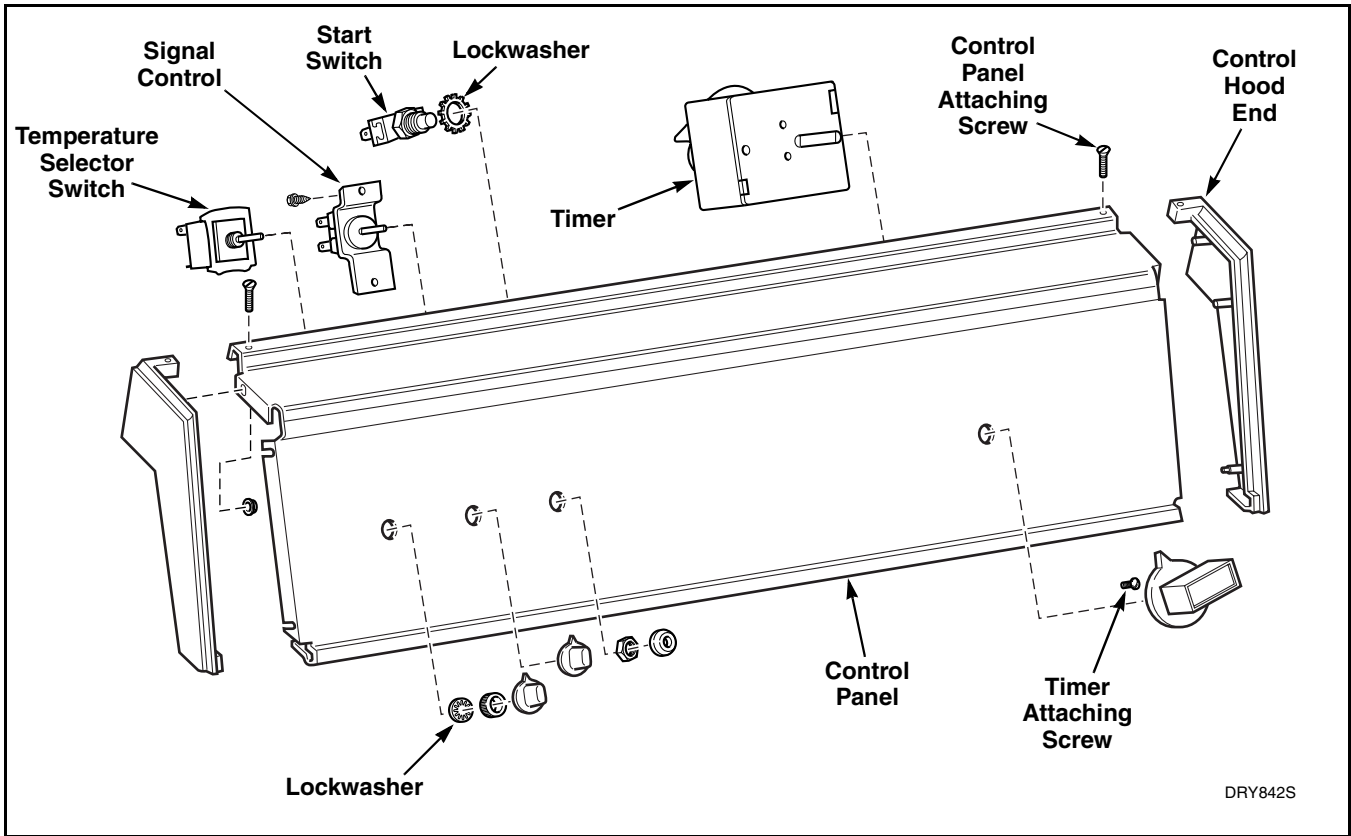

Figure 1
Refer to *Figure 1* or *2* for timer removal.
Refer to *Figure 1* for switch removal.
1. Remove control panel and lift assembly off panel support. Refer to *Figure 1* or *2*.
Refer to *Figure 1* for signal control removal.
Refer to *Figure 1* or *2* for switch removal.
1. Remove control panel screws and lift assembly off panel support. Refer to *Figure 1* or *2*.
1. Remove panel screws and lift assembly off panel support. Refer to *Figure 1* or *2*.